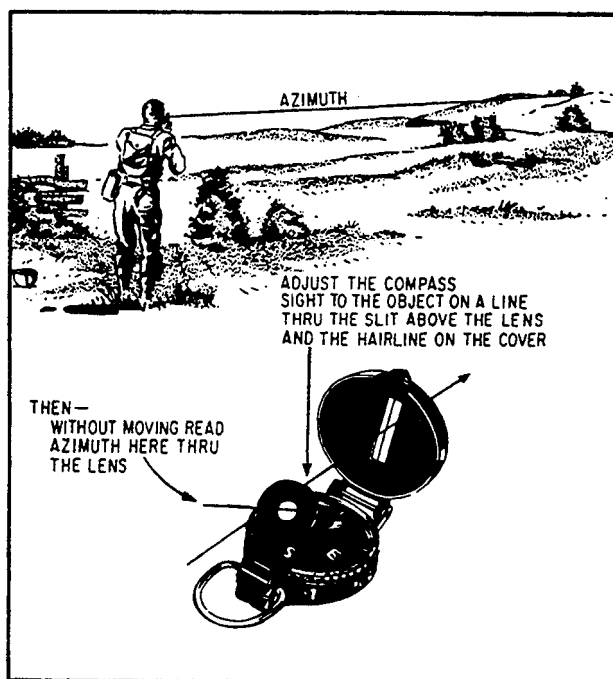

Figure 5-28.—A method of determining the azimuth of a visible object.
6. To take an azimuth reading, simply turn your entire body toward the object, pointing the compass cover directly at the object. (See fig. 5-28.)